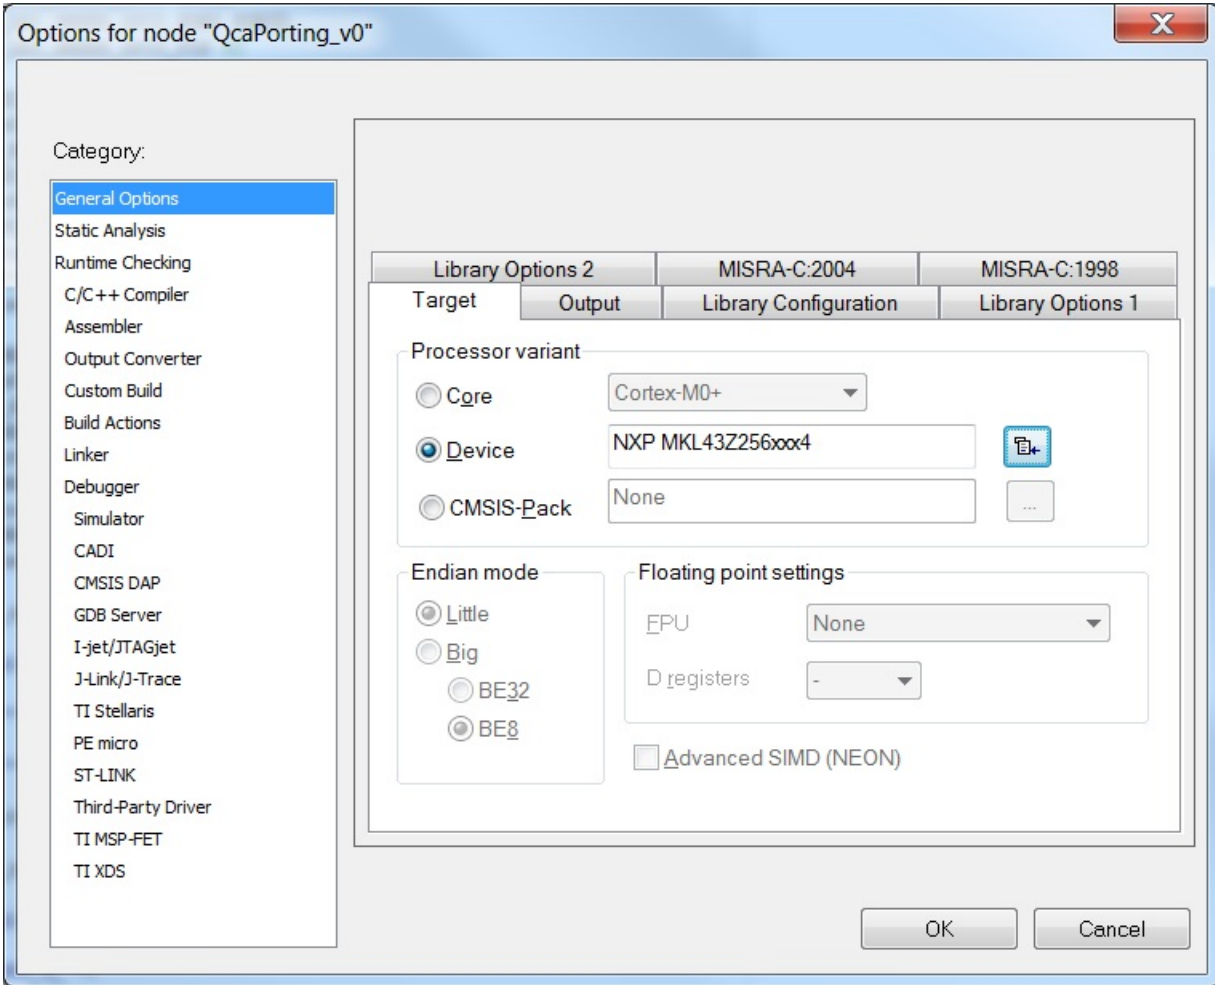

Figure 28. Select device
- To configure the project, right click the project name and select 'Options'. In the 'General Options' section, chose the microcontroller, as shown in Figure 28.